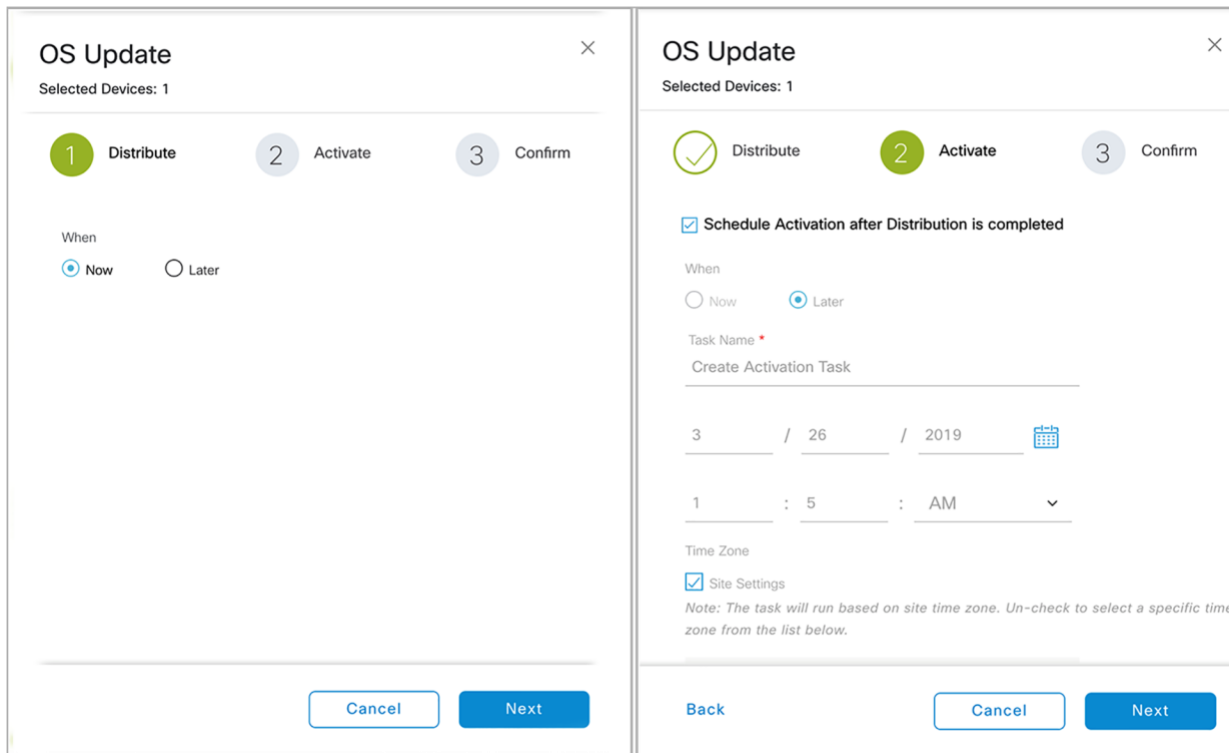

Figure 51.
- e. Click Now and then Next. (Alternatively, click Later to schedule the upgrade for a later time.) (**Figure 51.**).
- f. Check the Schedule Activation after Distribution is completed check box (**Figure 51.**).